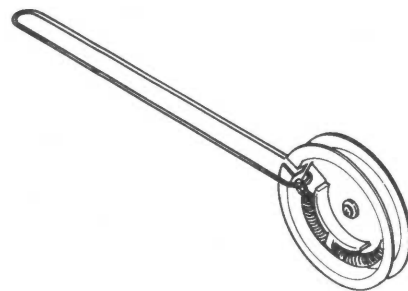

Fig. 5-2-3.
- (3) After securely tying the ends of the string, close the eyelet and seal the end with a sealing adhesive.
- (4) Load the dial spring inside the dial pulley as shown in Fig. 5-2-3.